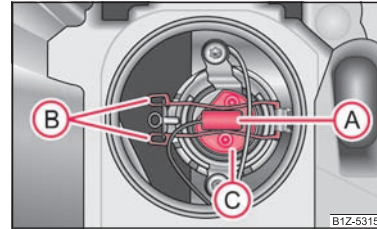

Fig. 196 Removing the light bulb for the main beam light
- Unplug plug (A) ⇒ fig. 196.
- Press the wire clamps (B) in the direction of the headlight and then unhook them to the side.
- Remove the light bulb (C) and insert the new light bulb in such a way that the fixing lugs of the light bulb socket fit into the recesses at the reflector.